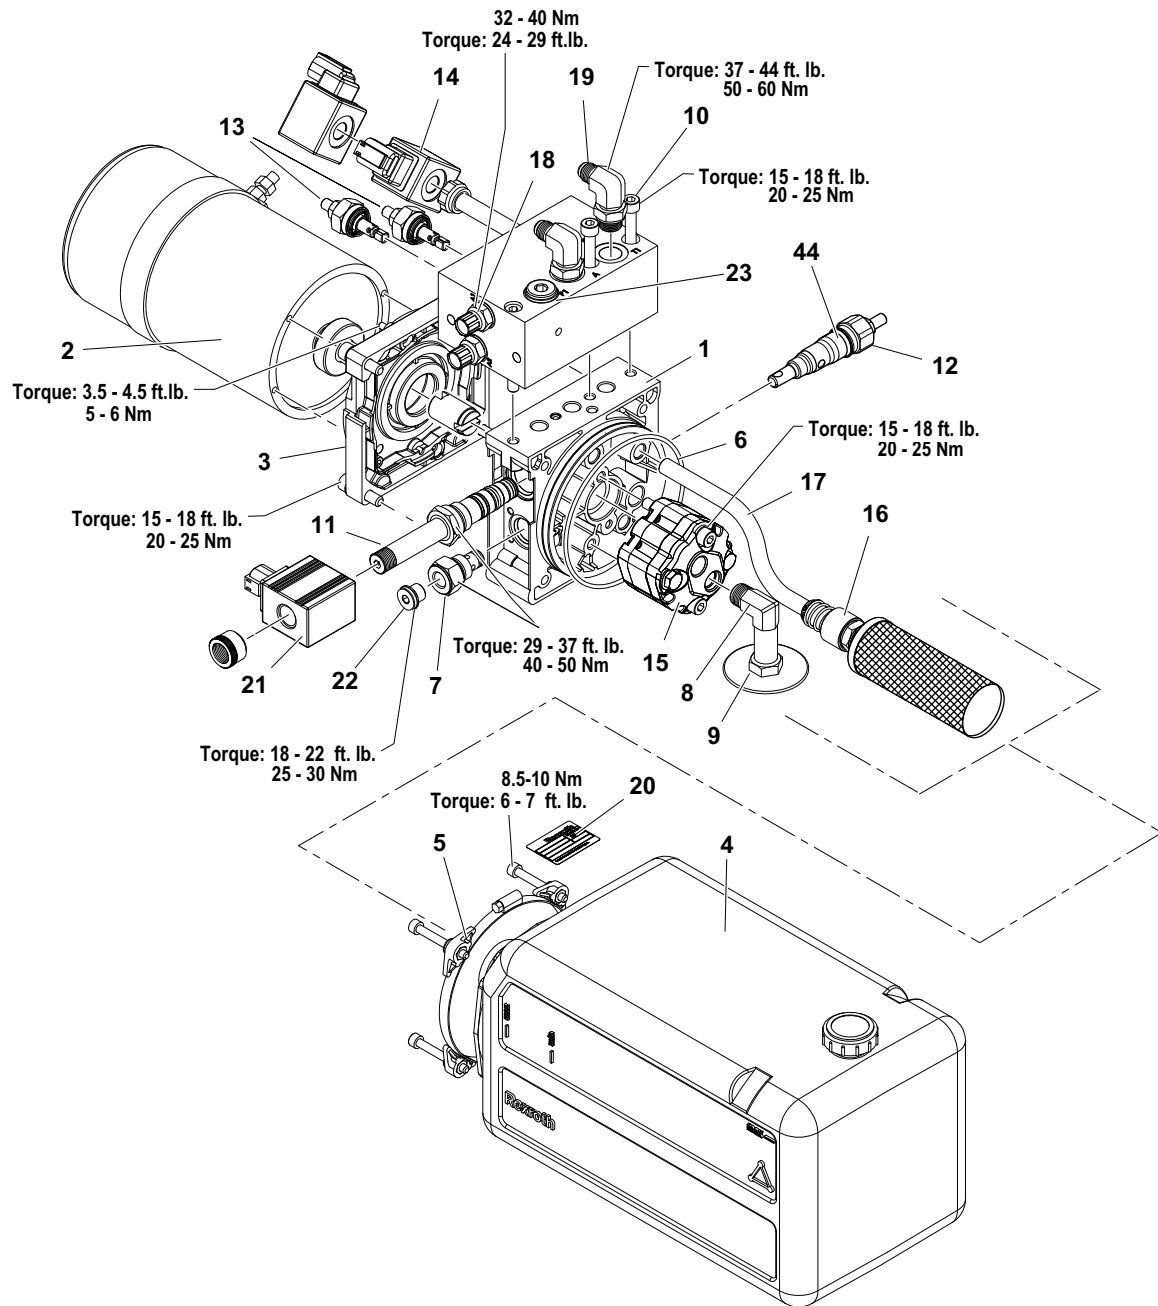

Figure 4-2. Hydraulic Motor, Pump and Tank Assembly (All Machines)
(See Figure 4-2.)
NOTE TORQUE VALUES IN FIGURE 4-2. FOR THE VARIOUS FASTENERS AND VALVES INSTALLED ON THE VALVE BODY. DO NOT OVERTIGHTEN OR DAMAGE COULD OCCUR.
1. Install adapter from table into M-port or P1-port on pump (see Figure 4-2.) and attach pressure gauge.